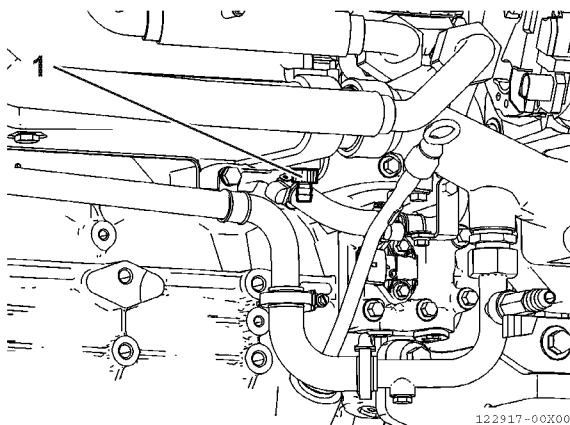

Figure 11
- Open the drain cock (Figure 11, (1)).